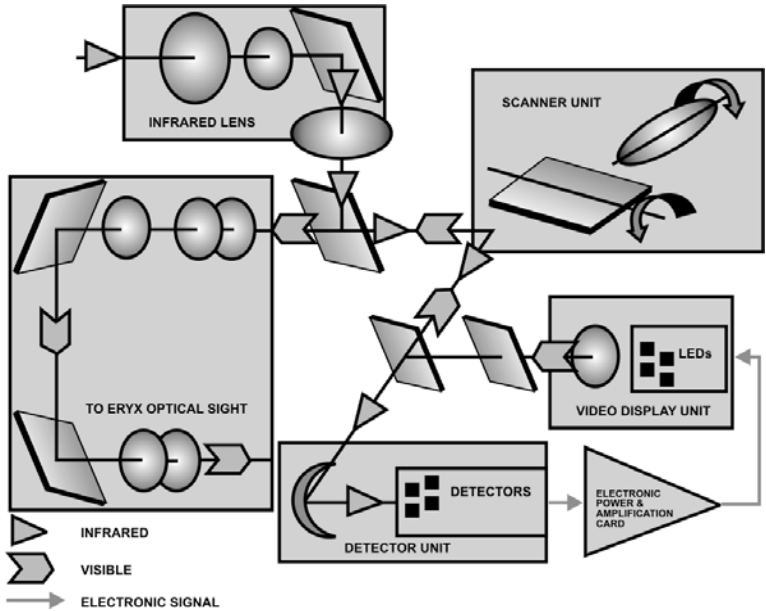

Figure 3-2: Schematic of the Mirabel Thermal Imager
14. **Function of the Mirabel Thermal Imager.** (See Figure 3-2.) Infrared (IR) energy enters the front of the thermal imager through a large lens made of Germanium. The IR energy then travels to the scanner unit where it is reflected off mirrors that oscillate both horizontally and vertically. This energy is then projected onto an array of cooled detectors which sense the minute differences in IR energy. The detectors *resolve* (or convert) these energy readings into an electronic signal which is then amplified. This signal then goes to the video display unit where the electronic signal is displayed on a bank of light emitting diodes (LEDs) as an actual video picture. This picture then passes through a series of lenses and mirrors, enters the normal three-power optics of the firing post, and is magnified to the proper size in the eyepiece.